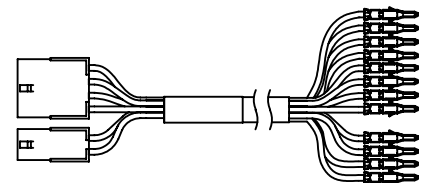

Fig. 7 Molex with 12-pin Connector Pinned
- b. Plug the 8-pin ElectroLynx connector from the rail into the 3" ElectroLynx harness or splice into non-ElectroLynx harness (Fig. 7 Non-ElectroLynx **POWER MODE** Installation).
Standard door with standard electric hinge: Molex connectors with flying leads can be purchased separately (Fig. 7).